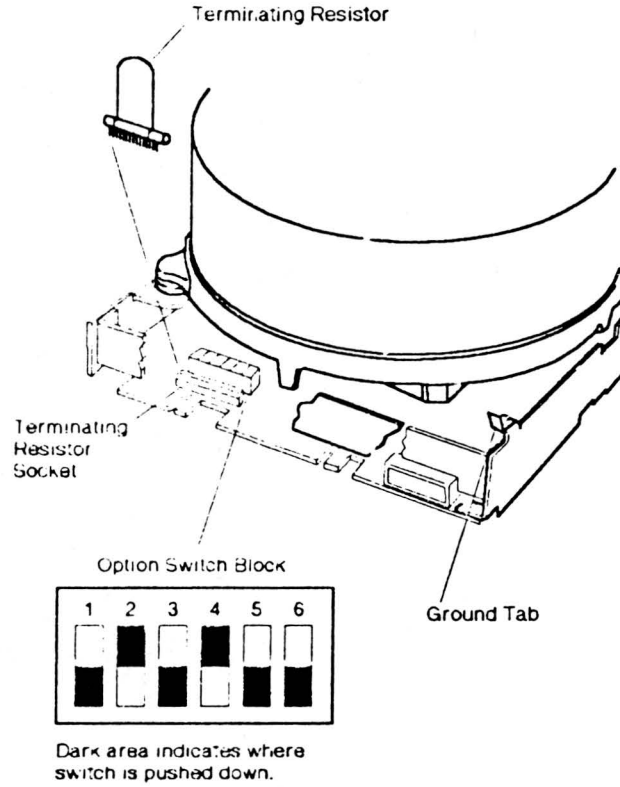
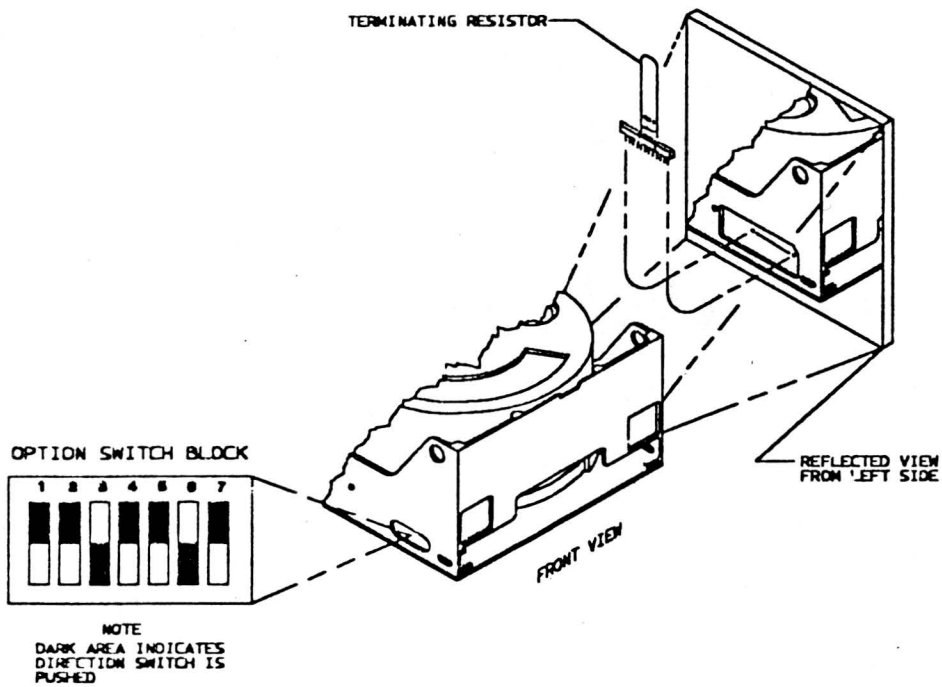

Figure 1.1
Figure 1.2
- 10.4.1 If installing the 65-MB or 105-MB drive(s), set switches on disk drive as shown in Figure 1.1.
10.4.2.2 Set switches on disk drive as shown in Figure 1.2
- 10.4.3 If installing a new Drive B or D, remove the terminating resistor from the back of the disk drive (see Figure 1.1 if installing 65 MB or 105 drive(s); see Figure 1.2 if installing 314 MB drive(s)).